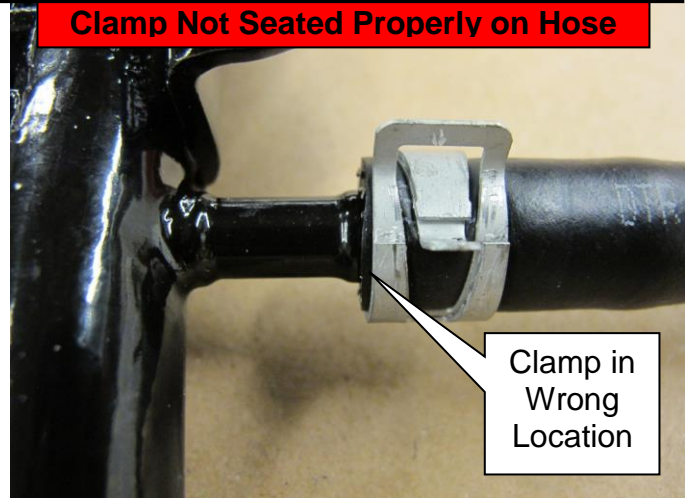

Figure 14
- Clamp not seated properly on hose (Too close to the end of the hose) (Figure 14).